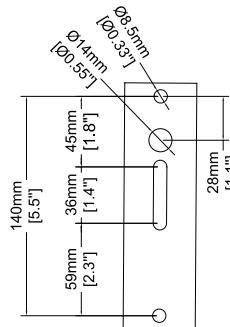
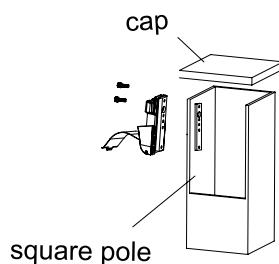
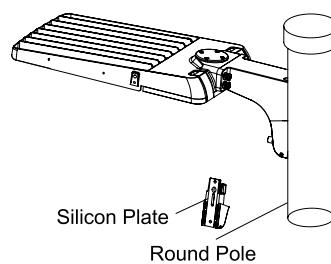

Figure 11
Figure 12
Figure 13
**NOTE:** The fixture can be mounted to either a round or square pole using the gaskets provided. Refer to the drill pattern below for the pole in order to mount the arm (see Fig. 11). If mounting it to a square pole use both silicone plates. If mounting it to a round pole remove one of the silicone plates. (see Fig. 12 and Fig. 13).